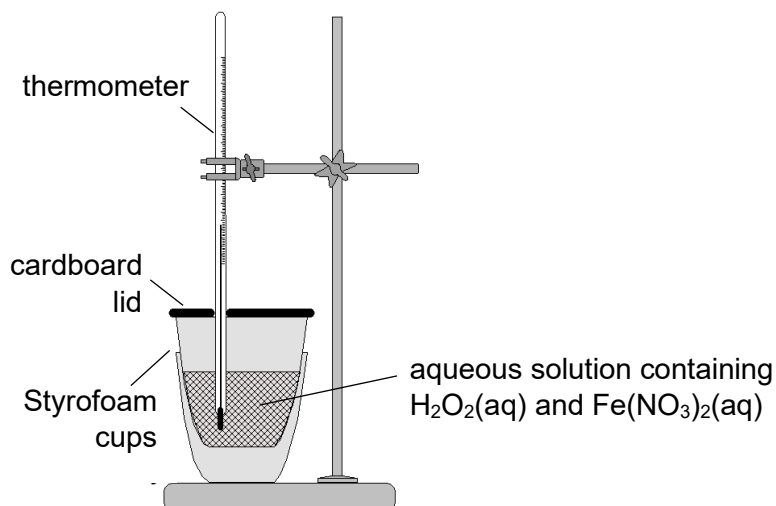

Fig. 7.1
The enthalpy change of decomposition, ΔH_{decomp} , is exothermic. Iron(III) nitrate, $\text{Fe}(\text{NO}_3)_3$, is an effective catalyst in this reaction. A student used the apparatus shown in Fig. 7.1 to carry out an experiment to determine ΔH_{decomp} .
- (iii) Suggest **one** feature of the experimental set-up in Fig. 7.1 that minimises heat loss.